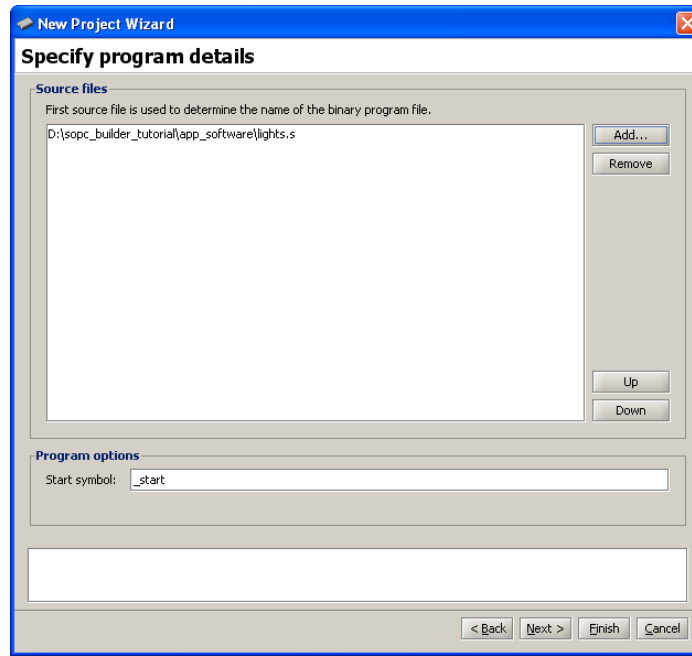

Figure 24. Specify the binary file to use.
7. Select Assembly Program as the program type from the drop down menu and click Next >, leading to Figure 24.
8. Click Add... to display a file selection window and choose the *lights.s* file and click select. Note that this file is in the directory *sopc\_builder\_tutorial\app\_software*. Upon returning to the window in Figure 24, click Next >.